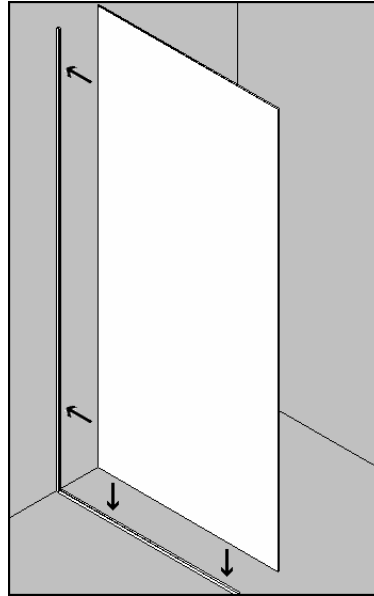
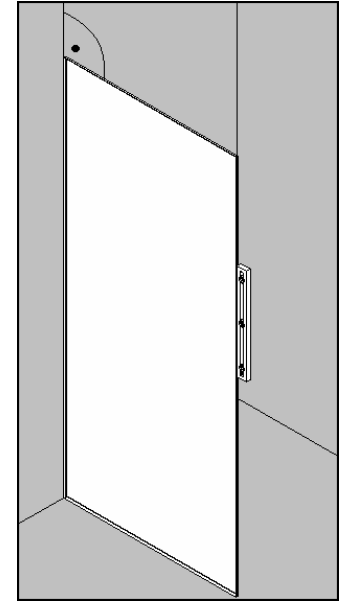

Figure 4
Figure 5
9. Place the shower wall glass in U-laths and press it towards the wall, so that silicone should stick the glass (**Figure 4**). Do not push the glass too strongly towards the U-lath fixed on the wall as this may cause glass break-up! With the help of level, ensure vertical position of the glass edge (**Figure 5**). If necessary, place auxiliary wedges between glass and U-lath. Remove excessive silicone extruded out of the laths.